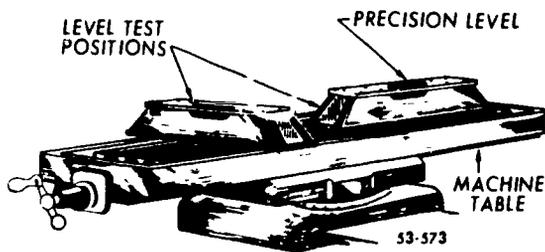
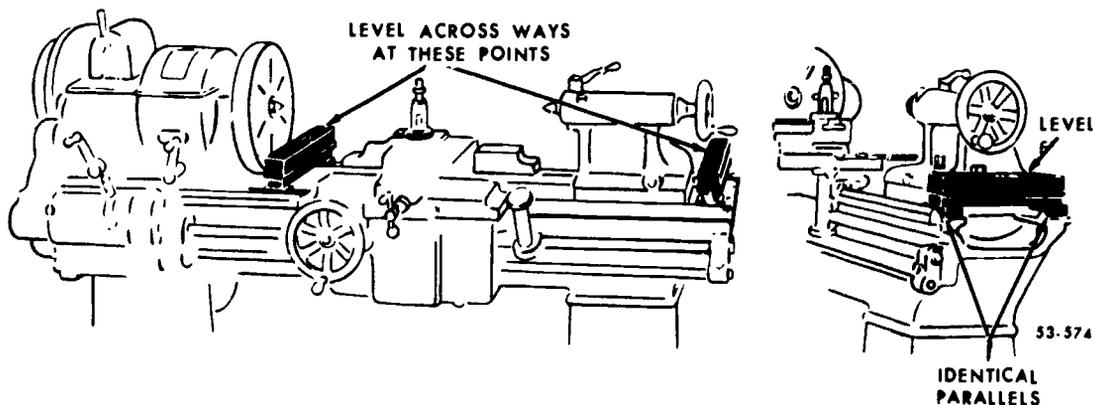

Figure 145. Placement of levels on milling machine.
Figure 146. Placement of levels on lathe.
**17-7. Leveling.** After the machine is in place on the floor, it must be leveled. You can use hardwood wedges, shingles, or shimstock to level it. They are placed under the base of the machine, usually in the area of the mounting bolts. Use a precision level to check the levelness of the machine. An ordinary carpenter's level or a combination square level is not sensitive enough for this job. Figure 145 shows the level test positions for leveling a milling machine. When you level a lathe you should position the precision level crosswise and lengthwise on the ways, as shown in figure 146